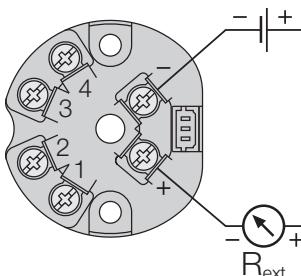

Fig. 7
Connect the measuring output leads (analog output and power supply) to terminals ① and ④ acc. to Fig. 7.